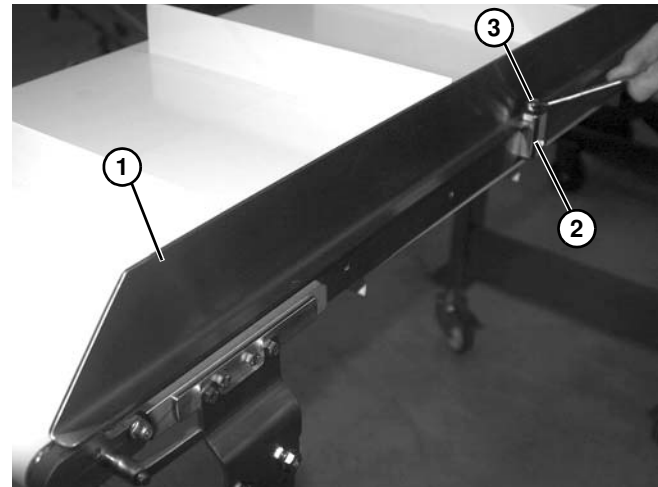

Figure 41
4. Install high sides (Figure 41, item 1) onto the guide brackets (Figure 41, item 2). Tighten screw (Figure 41, item 3) to secure.